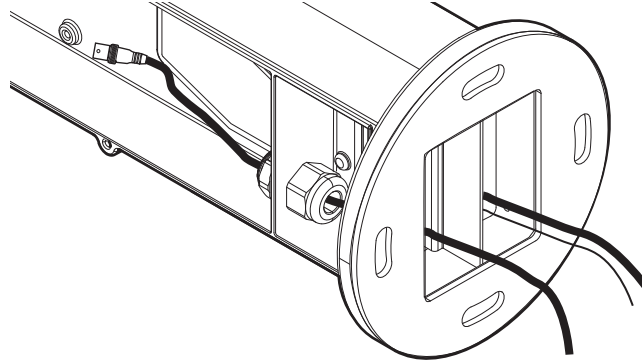

Figure 5. Inserting the Data and Power Cables
- b. Insert the data cable connector and cable through the gland hole at the rear of the IP66 mount arm compartment (refer to Figure 5 on page 13).